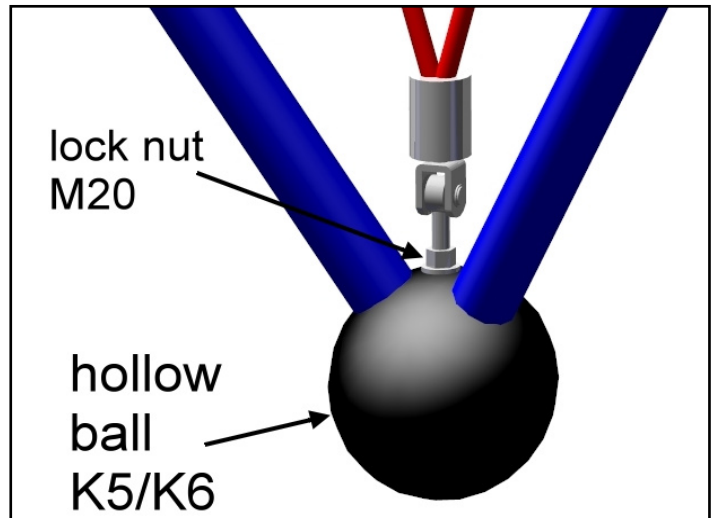
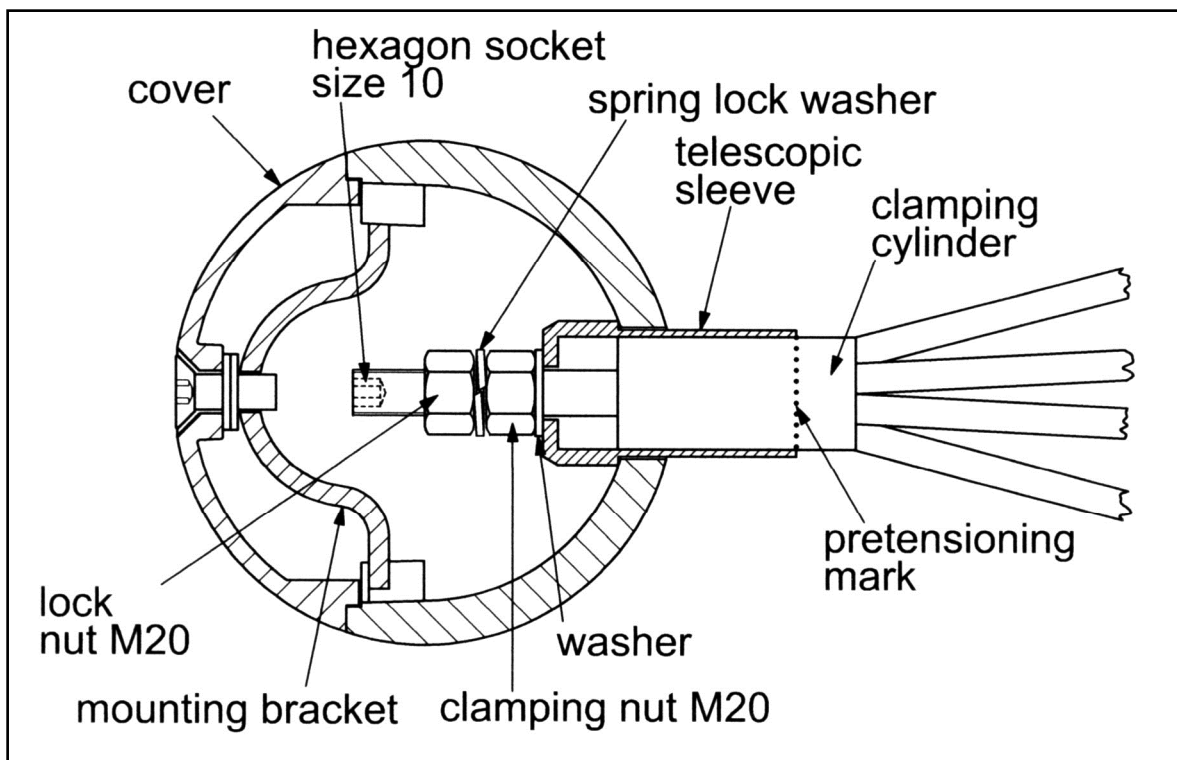

Figure 7
Figure 8
The four **corner points K2**, marked at the space net, should now be raised to the **hollow balls K2** using the attached assembly rope and fitted to the tensioning nut. Push the clamping cylinder with the bolt M20 into the telescopic sleeve (**figure 8**) and first of all, tighten it with the clamping nut N20 size 32 by only five turns to make for easier insertion into the spheres. The space netting should now be completely removed from the crate.
Preassembly of the space netting is continued on **joints K5 and K6 (figure 7)**, then on **joint K3** and finally on **joints K4** (**K3 and K4** are mounted like **K2**, **figure 8**). The straining screws should initially only be tightened about 5 threads by the tensioning nuts.
Tightening begins at **joints K5 and K6** and is carried out with the tensioning nuts M20 size 30. At this point the straining screws should be tightened as far as possible, so that the lock nuts previously set in the works (**figure 7**) come into firm contact with the joints. Further tightening is carried out on **joints K2, K3 and K4**. At this points tightening must be carried out with the special socket spanner size 32 which is supplied. It must be **tensioned up to the pretensioning mark**. The net finally has a good **uniform strong** tension.
Please note, that at all clamping points **the ropes are not distorted** when you tensioning the net. If necessary hold it firm with a practical tool. (**figure 8**).
After the tensioning the clamping nuts at all joints **K2, K3 and K4** are to lock with the supplied locking nut M20 size 32 including the spring lock washer. **When you tightened the lock nut, you can hold up the M20 bolt with an Allen key size 10 (figure 8).**
Now the lock nuts should be checked at the joint points **K5 and K6** are firmly anchored (**figure 7**). After that, all joints **K1, K2, K3, K4, K5 and K6** can be locked with the prepared ball covers via the retaining bracket in the cover (**figure 8**). Please fix all the covers that our logo is on the top. Thank you.
- The first re-tensioning of the equipment must be carried out after it has been used for between 1 and 2 weeks. Re-tensioning is done using the clamping nuts M20 which are situated in the hollow spheres (**K5** and **K6**). After removing the cover, using a size 10 Allen key, a socket spanner is used to increase the tension on the tensioning nut size 30. The lock nut size 30, which is on the outside of the hollow ball (**figure 7**), should first be loosened. After the re-tensioning the lock nuts are to be tightened. The further re-tensioning is carried out on the hollow spheres **K2**, **K3** and **K4**. At this points re-tensioning must be carried out with the special socket spanner size 32 which is supplied. The lock nut size 32 (**figure 8**) should first be loosened. It must be **tensioned beyond the pretensioning mark**. After the re-tensioning the clamping nuts at all joints **K2**, **K3** and **K4** are to lock with the supplied locking nut M20 size 32. **Please note the right position of the spring lock washer between the two nuts**. When you tightened the lock nut, you can hold up the M20 bolt with an Allen key size 10 (**figure 8**). Now the lock nuts should be checked at the joint points **K5** and **K6** are firmly anchored (**figure 7**). After that, joints **K2**, **K3**, **K4**, **K5** and **K6** can be locked with the prepared ball covers via the retaining bolt in the cover. Please fix all the covers that our logo is on the top. Thank you.
- Check that the lock nuts (**figure 7**) fit firmly on the hollow balls **K5** and **K6**.